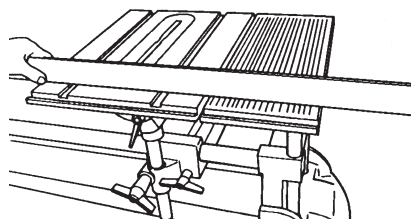

Figure 85
2. Using a Straightedge, adjust the height of the Worktable so that its infeed surface is even with the infeed surface of the Extension Table. (Figure 85).